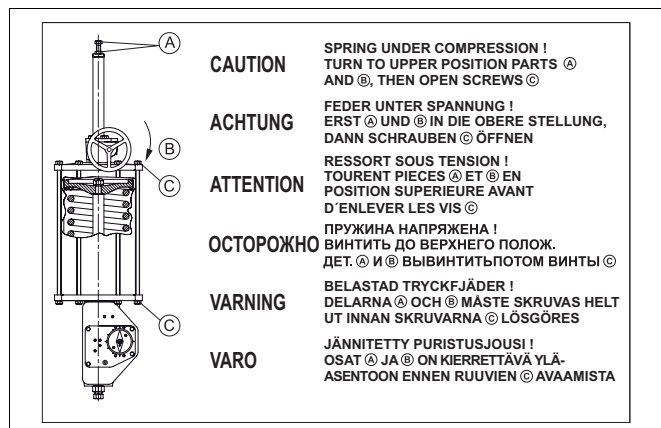

Fig. 26 B1JRR actuator warning plate
The cylinder has a warning plate (43), see Fig. 26. When servicing the unit, check that the plate is in place and legible. Also check that the cylinder has the arrow sticker indicating the spring operating direction.